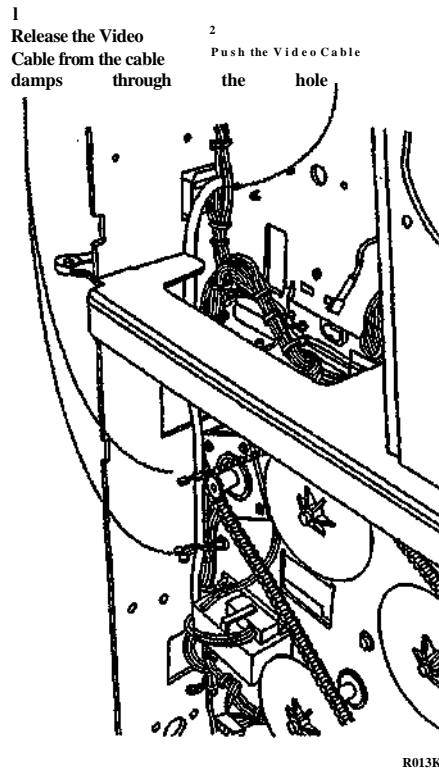

Figure 4. Preparing the Video Cable for Removal
10. (Figure 4): Release the Video Cable from the cable clamps and push it through the hole in the frame.